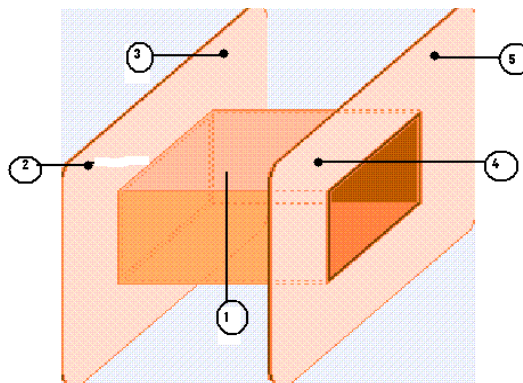

Figure 2.2. The bobbin
4. Take a bobbin of 1" * 1" (as shown in Figure 2.2). At point 1 wrap insulating paper, take one end of primary winding out from point 2, mount the bobbin on winding machine then start winding copper wire around the bobbin. Until the desired number of turns for primary are completed. Cut the wire and take it out from point 3.
3. Take a bobbin of 1'' * 1'' (as shown in Figure 2.2) at point 1 wrap insulating paper, take one end of winding out from point 2, mount the bobbin on winding machine then start winding copper wire around the bobbin. For creating taps of an autotransformer take out the copper wire of desirable length (don't cut the copper wire) and after it again start winding until the desired number of turns are completed. Cut the wire and take it out from point 3.